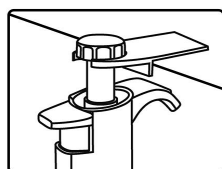

Fig.2B
- Mount the pipette on the holder (Fig. 2B).